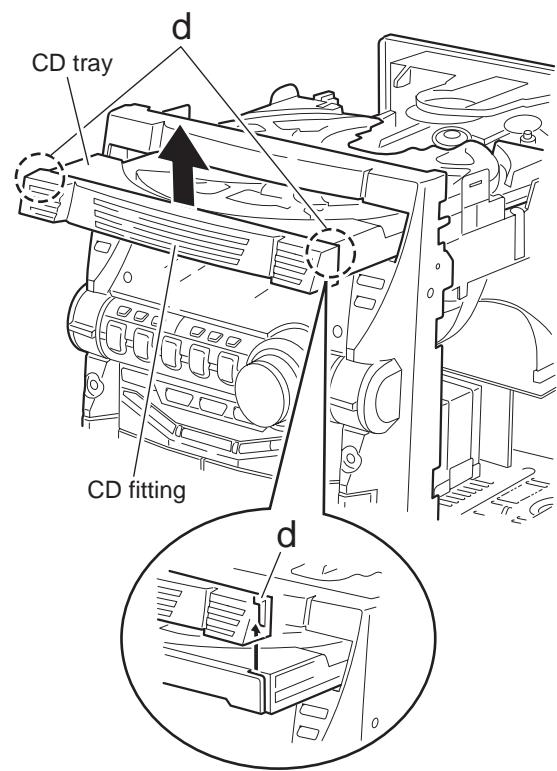

Fig.7
3.1.3 Removing the CD fitting (See Fig.7 to 9)